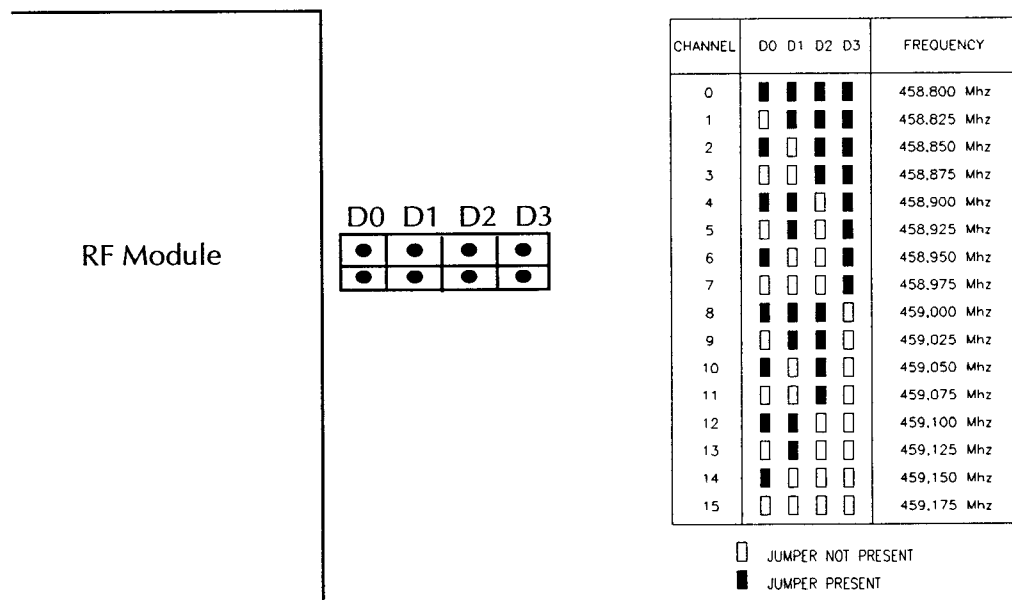

Figure 3.5: Frequency Diagram
- The frequency of the transmitter must be set to the frequency of the receiver it is going to control. The transmitter and receiver operate over the 400–470 MHz frequency range (70-cm band). There are 16 possible frequencies and 16 corresponding channels available. Figure 3.5: Frequency Diagram shows each channel, its respective frequency, and the position of the four jumpers. Set the frequency jumpers according to the diagram for the frequency you are setting for the transmitter.